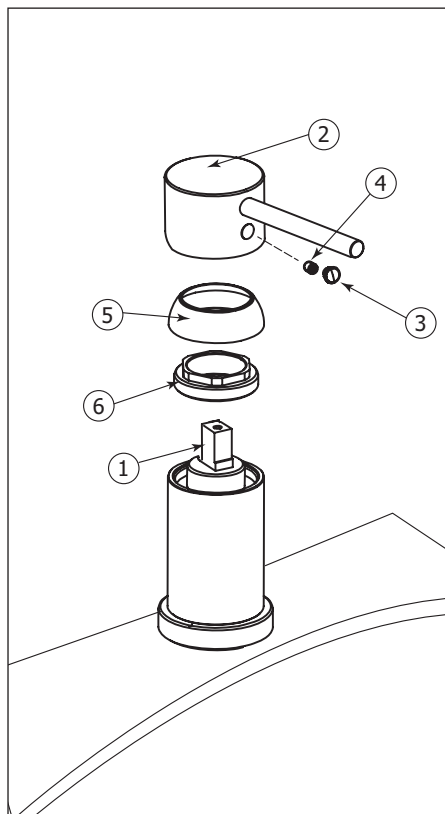

Fig.8
Start by shutting off the water supply lines and then turn on the water to drain the faucet. To replace the cartridge (1), pull out the handle (2) by removing the cap (3) and the set screw (4) first. Afterwards, remove the dome cap (5) and the retainer ring (6). Replace with new cartridge and reassemble by reversing steps. Fig.8.
Remplacer la cartouche par la nouvelle, puis inverser les étapes pour le réassemblage. Fig.8.